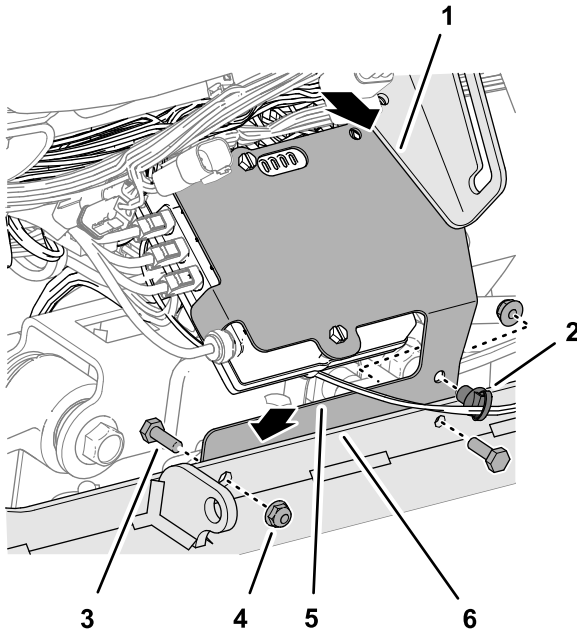

Figure 196
5. Align the modem bracket under the prop-rod bracket and behind the flange of the machine frame as shown in Figure 196.
6. Insert the lower push-in fastener of the wire harness into the hole in the modem bracket as shown in Figure 196.